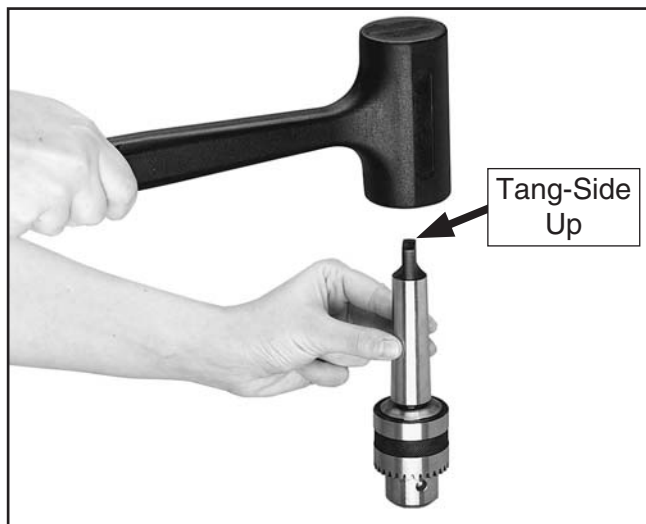

Figure 16. Seating arbor into chuck.
4. Place the drill chuck face down on a workbench. The arbor has a short taper and a long taper. Place the short taper into the socket in the back of the drill chuck and tap it with a rubber or wooden mallet, as shown in **Figure 16**. If the chuck fails to remain secure on the arbor, repeat **Steps 1 & 2**.
6. Slide the arbor into the spindle socket while slowly rotating the drill chuck. The socket has a rectangular pocket where the tang (or flat portion of the arbor shown in **Figure 16**) fits into.